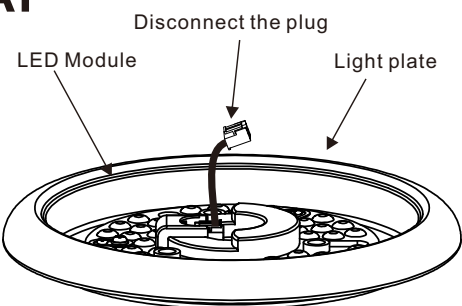

**Figure 8**
**Step 3.** Tighten the 3 screws previously removed in step 1 (Fig.8)